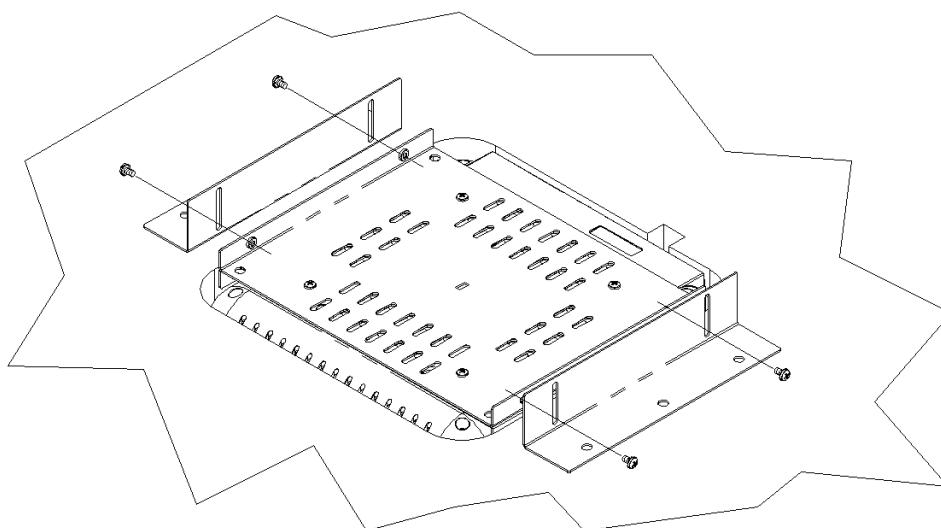

Figure 9: Side Mounting Bracket Installation
4. Turn BSAP-1800 unit over and place ceiling tile over the unit as shown in Figure 9. The Trim Plates will aide in tiles correct position. Next attach the Side Mounting Brackets to the Rear Mounting Plate using the 6-32 screws with the external tooth washers attached.